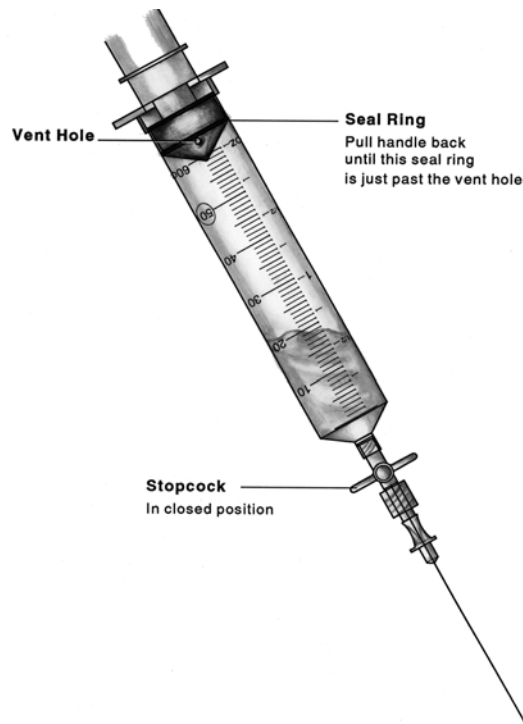

Figure 7: Venting the syringe head space
1. With the refill needle pointing down, vent the syringe head space by pulling back firmly on the plunger until the second sealing ring on the black rubber cap passes beyond the vent hole (see Figure 7).